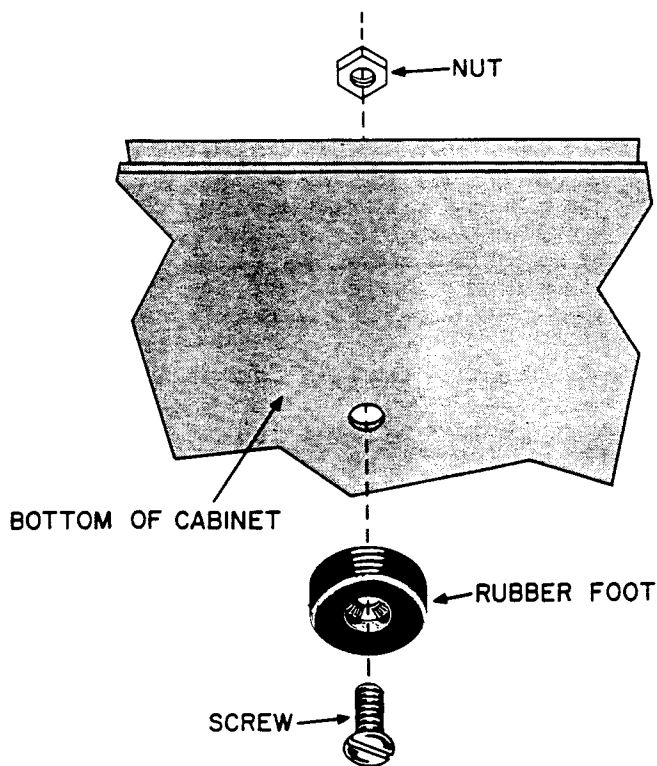

FIGURE 2. HOW TO MOUNT THE RUBBER FEET ON THE CABINET
- ☐ As shown in Figure 2, put a 6-32x $\frac{5}{16}$ " screw through the large hole in each of the four rubber cabinet feet so the screw head fits into the large hole. Push the protruding threaded ends of the screws through the bottom of the cabinet and fasten them with hex nuts inside the cabinet.